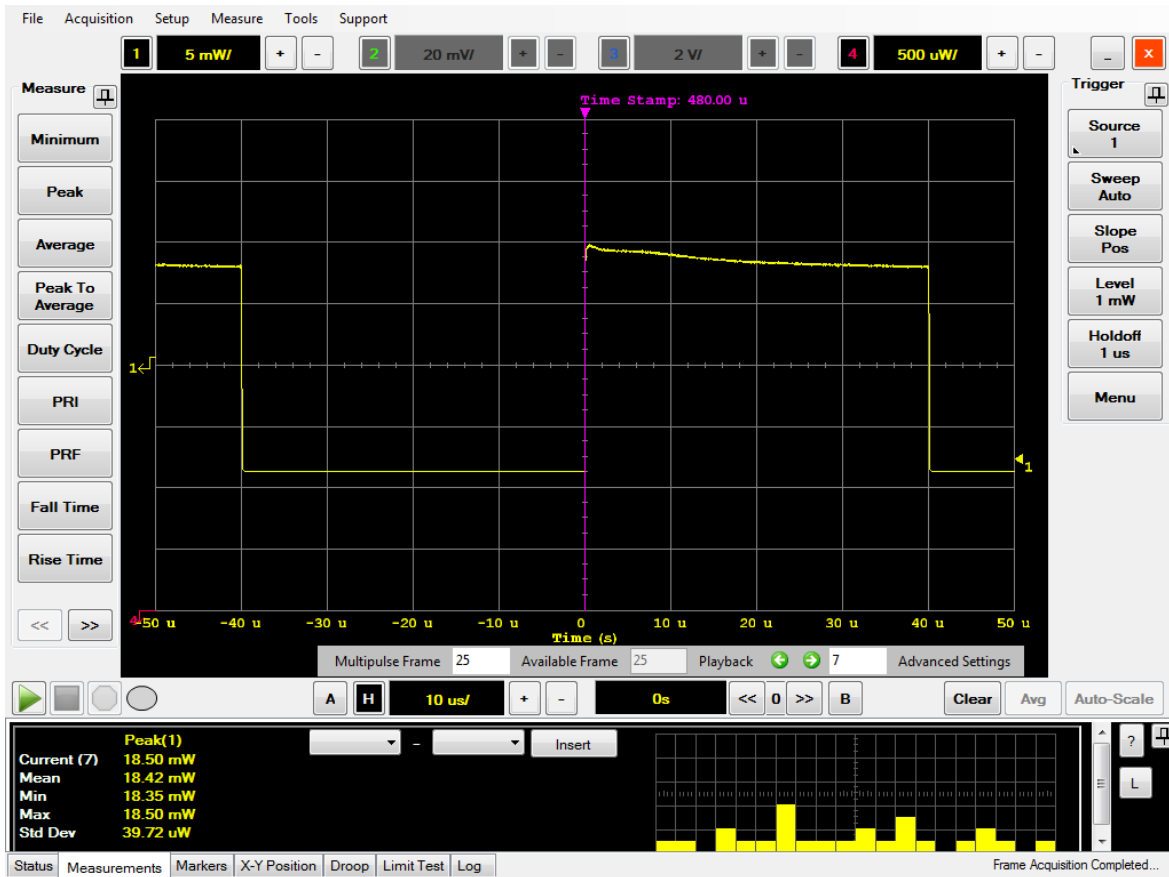

Figure 2-93 Multipulse display
- 5 An example of the multipulse display is as shown in Figure 2-93.